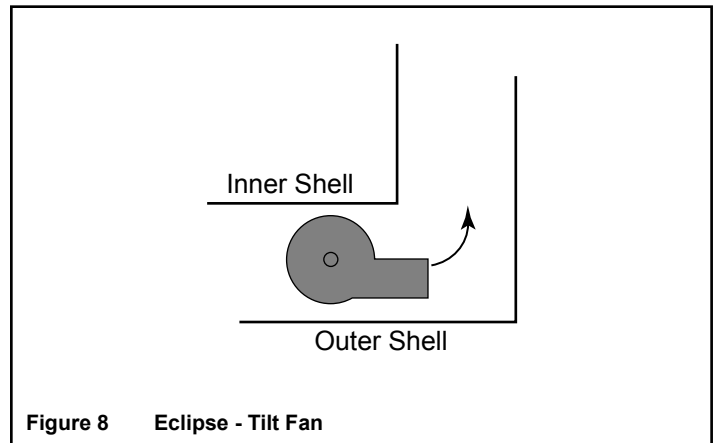

Figure 8 Eclipse - Tilt Fan
**Eclipse only:** Tip and rotate the fan (Figure 8) so the exhaust end of fan is between inner and outer shell.